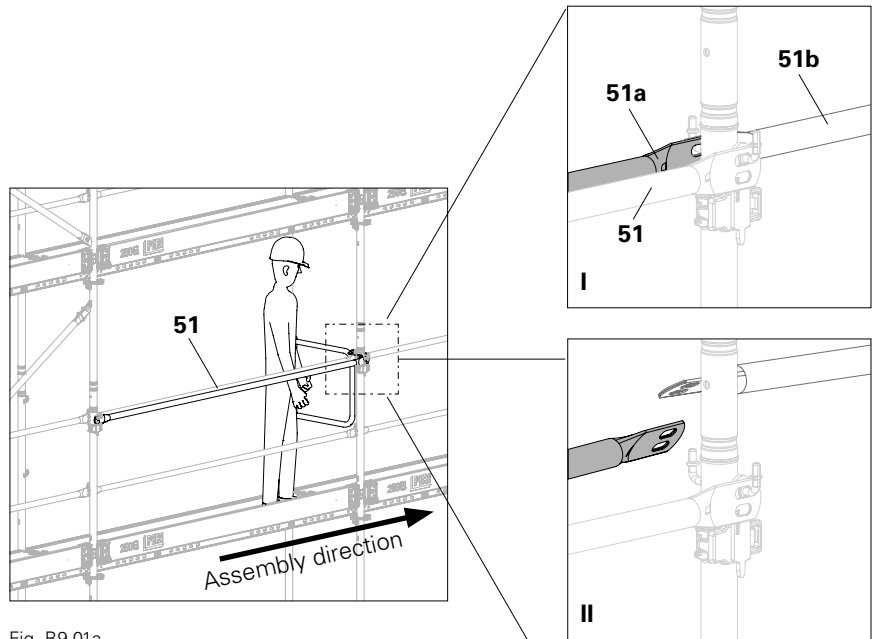

Fig. B9.01a
4. Change the fitting order of the guardrails (51a, 51b) so that the guardrail post (**51a**) to be dismantled is hanging freely. (Fig. B9.01a)